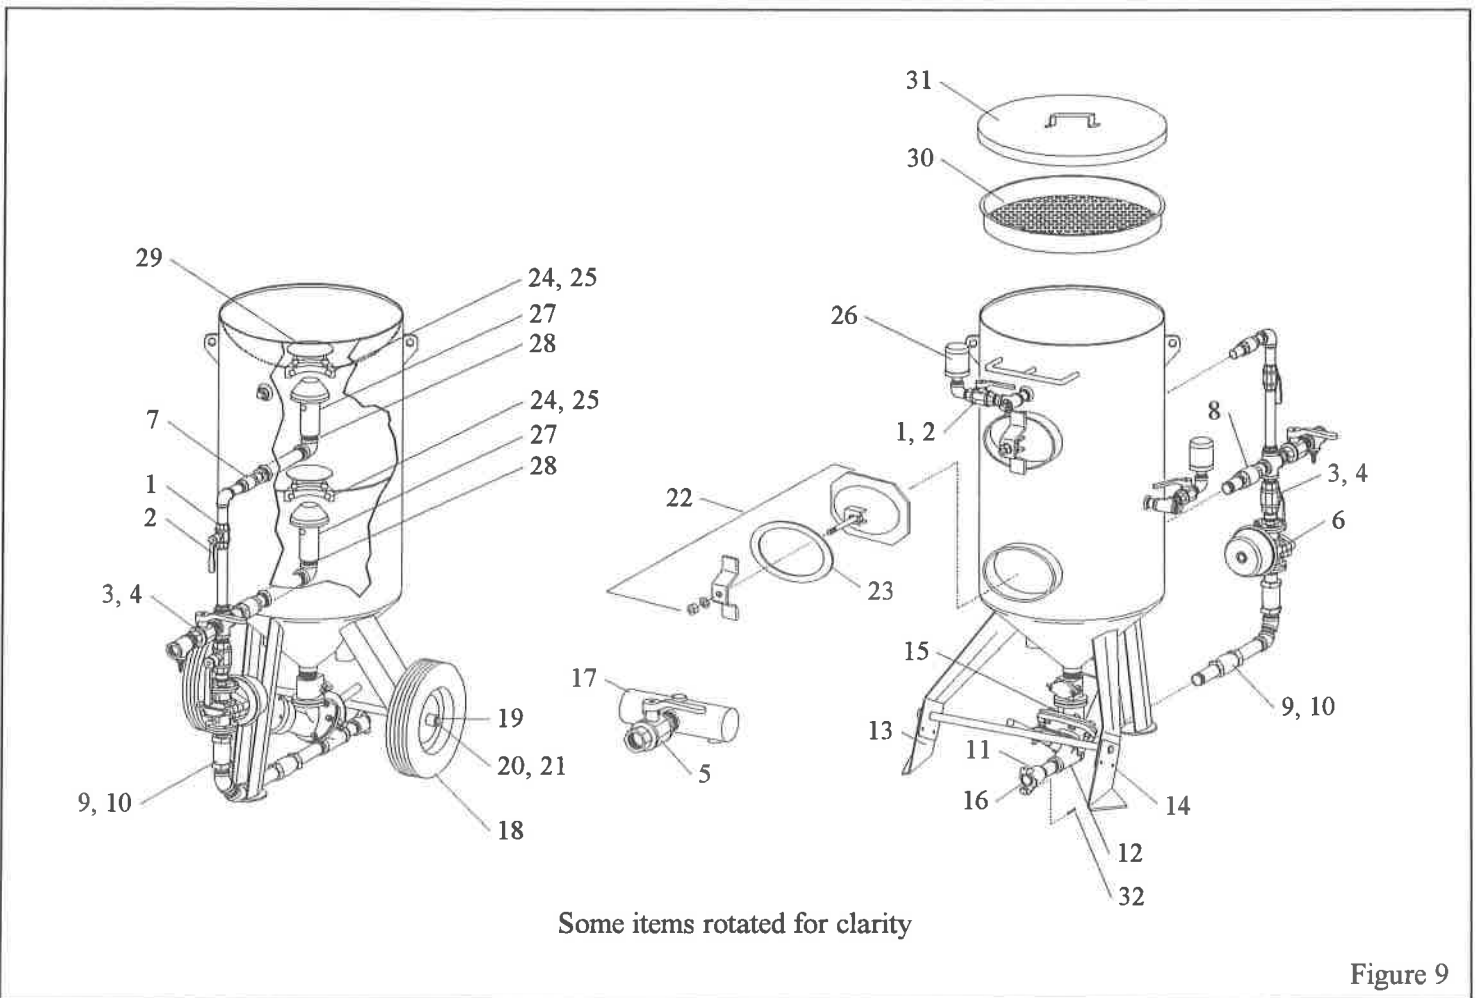

Figure 9
8.5 Blast Machine and Accessories, Figure 9